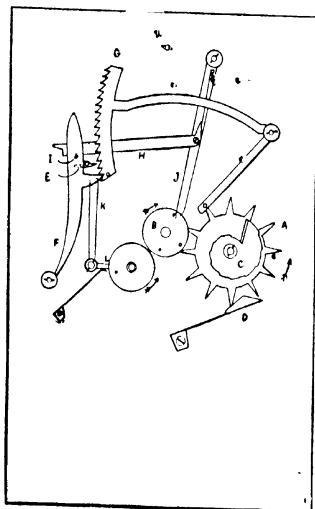
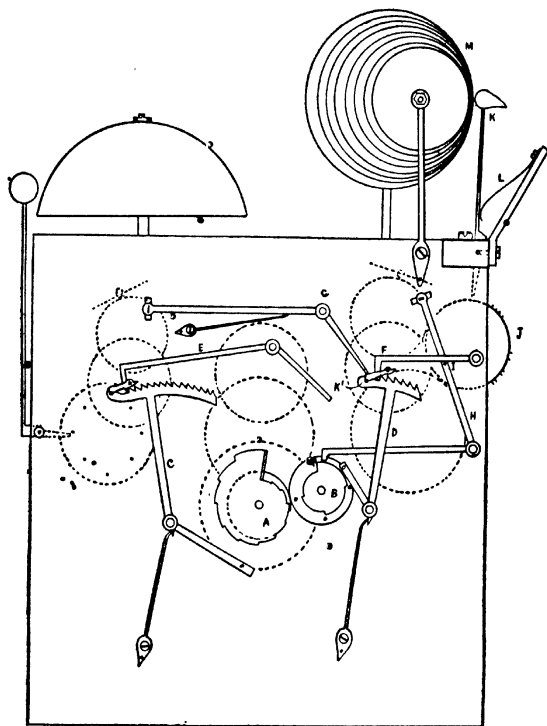

FIG. 83.—French Carriage-clock Rack-striking Mechanism.
FIG 93.—English Three-Train Quarter Chiming Mechanism.
Fig. 83 shows the arrangement, and it is so good, simple, and certain, in action that it constitutes a considerable improvement on ordinary rack striking in any form of clock.
**Vienna Regulators** generally have rack-striking work similar in pattern to English clocks, and the snail is mounted on a star wheel like that in Fig. 83, so these will need no special reference.
Another system is that often seen in French carriage clocks and is a modification of the striking work shown in Fig. 83. It has the hour rack, the letting off-lever HJ, the rack detent F, the star wheel, hour snail and jumper exactly as there described. In addition it has a separate quarter snail upon the cannon pinion and a quarter rack which falls upon it. The quarter rack is on the same stud as the hour rack and just behind it. The same gathering pallet gathers both racks together, and the same detent F falls into and holds both racks.
The lever KL (Fig. 83) is in position to keep the hour rack from falling except at the hour, when a pin in the cannon pinion holds it down and lets the hour rack fall.
As each quarter comes round, the hour rack falls one tooth on to the top of K (Fig. 83), and the quarter rack falls upon the quarter snail. The gathering pallet comes round and gathers the hour rack up one tooth, but both hammers being
Fig. 93 shows the usual arrangement of an English quarter-chiming clock. It will be seen that there are two snails, two racks, two gathering pallets, and two warning levers, etc. The chime bells M are mounted upon a spindle supported by two
The circumference of the pin barrel is divided into five portions, in each is pinned a "chime." The barrel revolves twice per hour and for each tooth of the  $\frac{1}{4}$  rack gathered up, that is, for each revolution of the pallet wheel, one portion or section of the pin barrel passes under the hammer tails and one "chime" is struck. Thus, at the first quarter, the rack falls upon the first step of the  $\frac{1}{4}$  snail B (Fig. 93), one tooth is gathered up, and one chime struck. At the half-hour, the rack falls two teeth and two chimes are struck. At three-quarter hour, the rack falls three teeth and three chimes are struck. At the hour it falls four teeth and four chimes are struck. The sum of these, 1, 2, 3 and 4 = 10. As there are five chimes pinned on the barrel, that equals two revolutions. No. 1 chime is given at the first quarter, Nos. 2 and 3 at the half-hour, Nos. 4, 5, and 1 at three-quarter hour, and Nos. 2, 3, 4, and 5 at the hour.
Returning to Fig. 93, the hour snail A is mounted upon a star wheel moved by a pin in the cannon pinion, as described and shown in Fig. 83 or upon the hour wheel. The hour rack C is of the usual pattern and has its spring and gathering pallet. The hour rack hook E has a long tail. The warning lever G also has a long tail, and is kept up by a spring. When up it stops the warning pin. The quarter snail B is on the minute wheel, and has at its back four lifting pins which raise the quarter warning lever H. A pin, I, halfway up H raises the quarter rack hook F, and lets the quarter rack D fall.